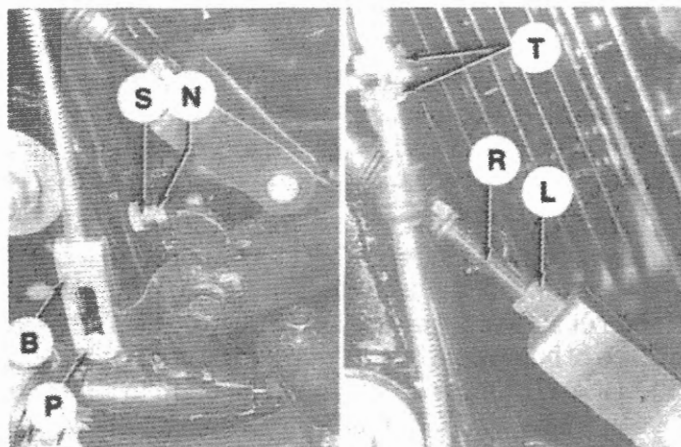

Fig. S13-24—Refer to text for adjustment procedures on rear brake pedal and related components.
To adjust brake pedal and brake lever, first loosen locknut (N—Fig. S13-24) and rotate screw (S) until top of brake pedal pad is level with footpeg, then tighten locknut (N). Loosen locknut (L) and rotate rod (R) until correct brake pedal free travel is obtained, then tighten locknut. After adjusting brake pedal, loosen nuts (T) and adjust cable length until lower end of slot in cable bracket (b) just contacts brake pedal pin (P). Then slide protective cover down brake lever cable and measure brake lever free travel. Lever should have 3-7 mm (0.1-0.3 in.) of free travel between lever base and bracket as measured at (F—Fig. S13-25). To adjust, loosen locknut (C), turn adjuster (A) on brake lever until correct free travel is obtained, then tighten locknut (C).